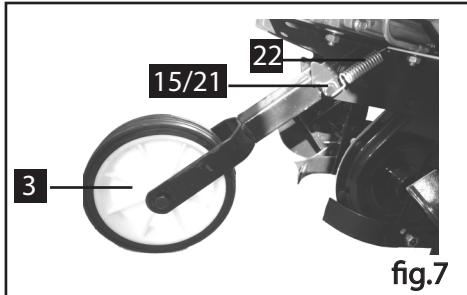

fig.7
6. Mount the Wheel assy on the tiller with M 8*50 screw and flange nut, then hang extension spring (Fig.7).